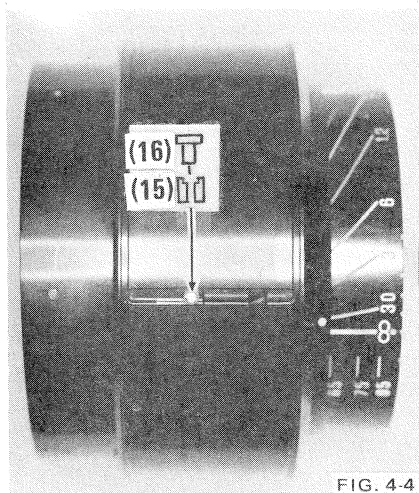

FIG. 4-4
c) Remove control ring roller shaft (16) and roller (15) from each side of lens. Fig. 4-4.